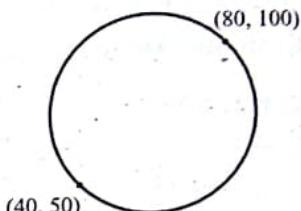

FIG 14.7
**Example :** Draw a circle passing through 2 points having coordinate (40, 50) and (80, 100). Refer figure 14.7.